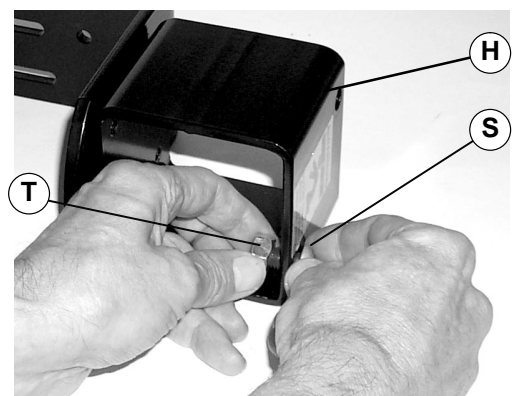

Figure 8
11. Install two M10 x 16mm button head screws (S of Figure 8) and hex nuts (T) on leg support bracket (H). Do not tighten screws.